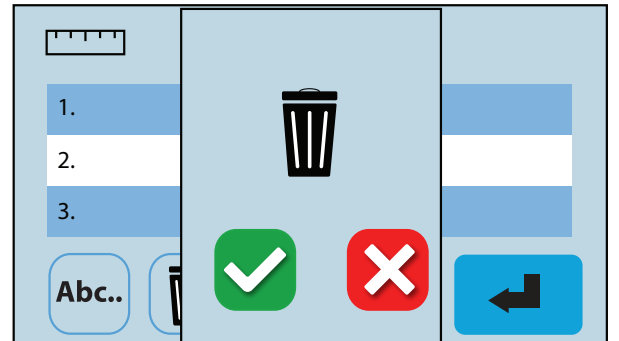

Fig. 20 Deletion confirmation screen
4. To delete a job, select the job from the list and press the delete icon  (Fig. 20). On the confirmation screen press the green box with the check to confirm the deletion or press the red box with the X to cancel the deletion (Fig. 20).